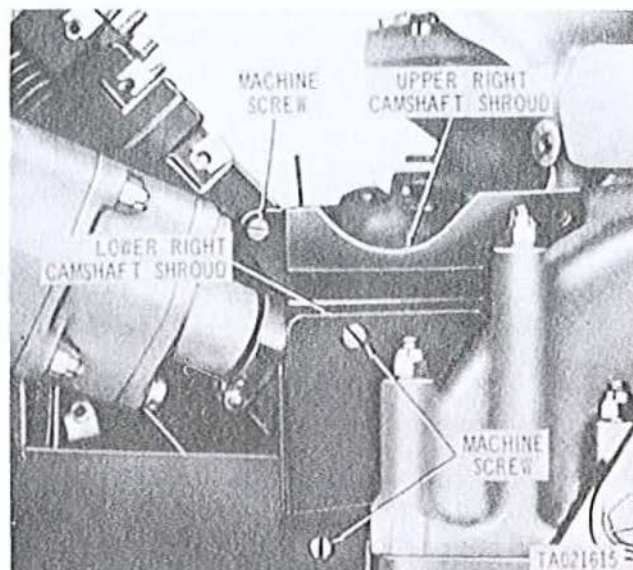

Figure 3-57. Removing or installing camshaft drive shrouds - right side.
a. Remove two machine screws (fig. 3-57) and remove lower right camshaft shroud. Remove machine screw and remove upper right camshaft shroud. Remove left shrouds in the same manner.